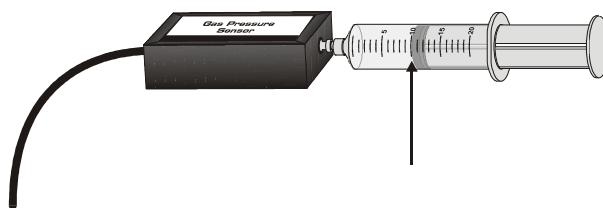

Figure 1
- b. With the 20 mL syringe disconnected from the Gas Pressure Sensor, move the piston of the syringe until the front edge of the inside black ring (indicated by the arrow in Figure 1) is positioned at the 10.0 mL mark.